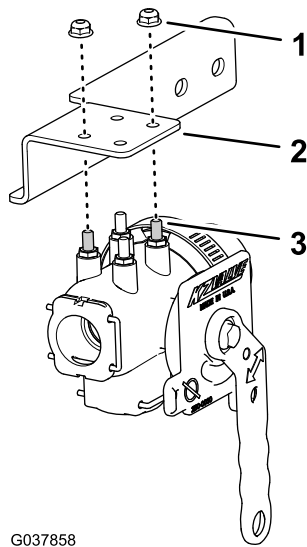

Figure 61
1. Align the studs of the eductor shutoff valve with the holes in the shutoff-valve bracket (Figure 61).
2. Assemble the valve to the bracket (Figure 61) with the 2 flange locknuts (1/4 inch) and torque the locknuts to 52 to 67 N·m (46 to 60 in-lb).